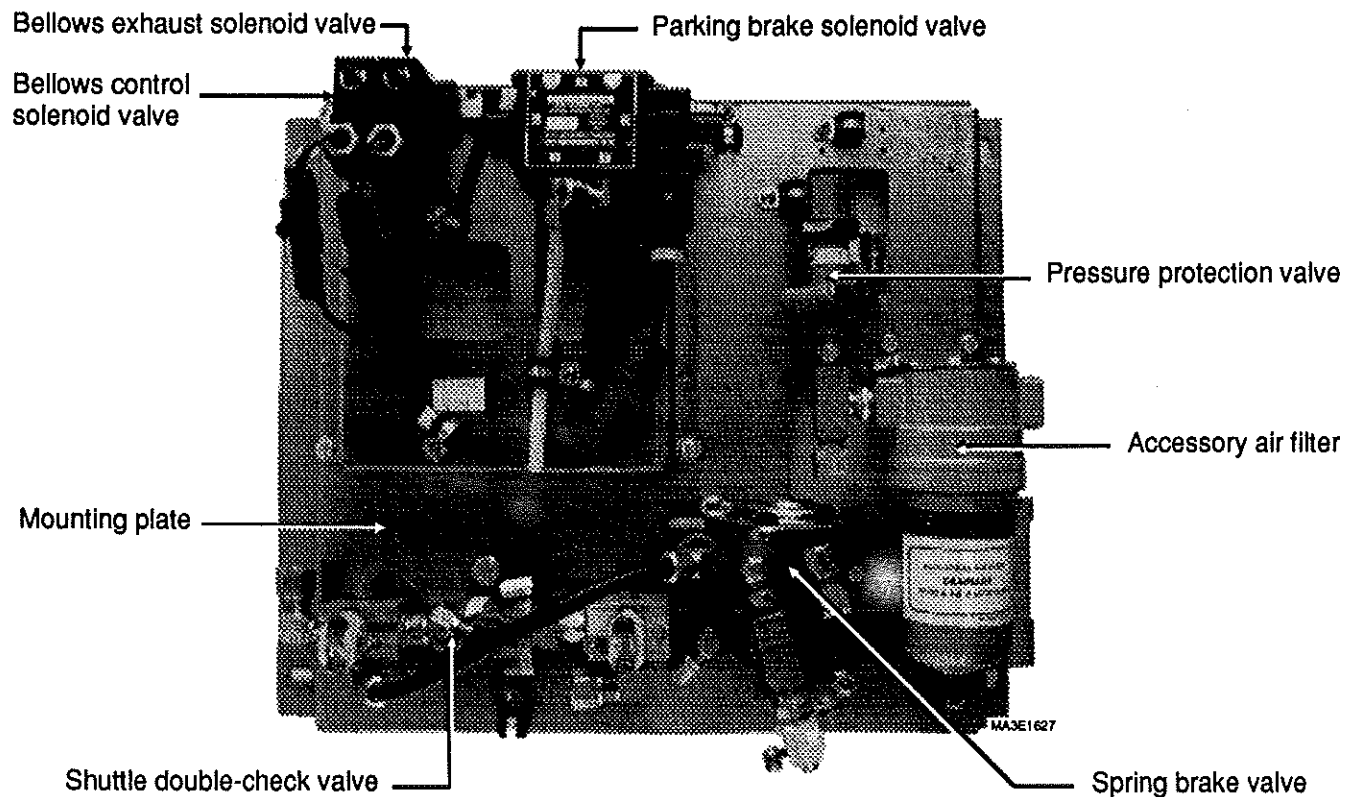

FIG. 27 - Pneumatic component mounting plate
1. On the R.H. side of the front service compartment, locate the bellows control and exhaust solenoid valves fixed on the mounting plate (see fig. 27).